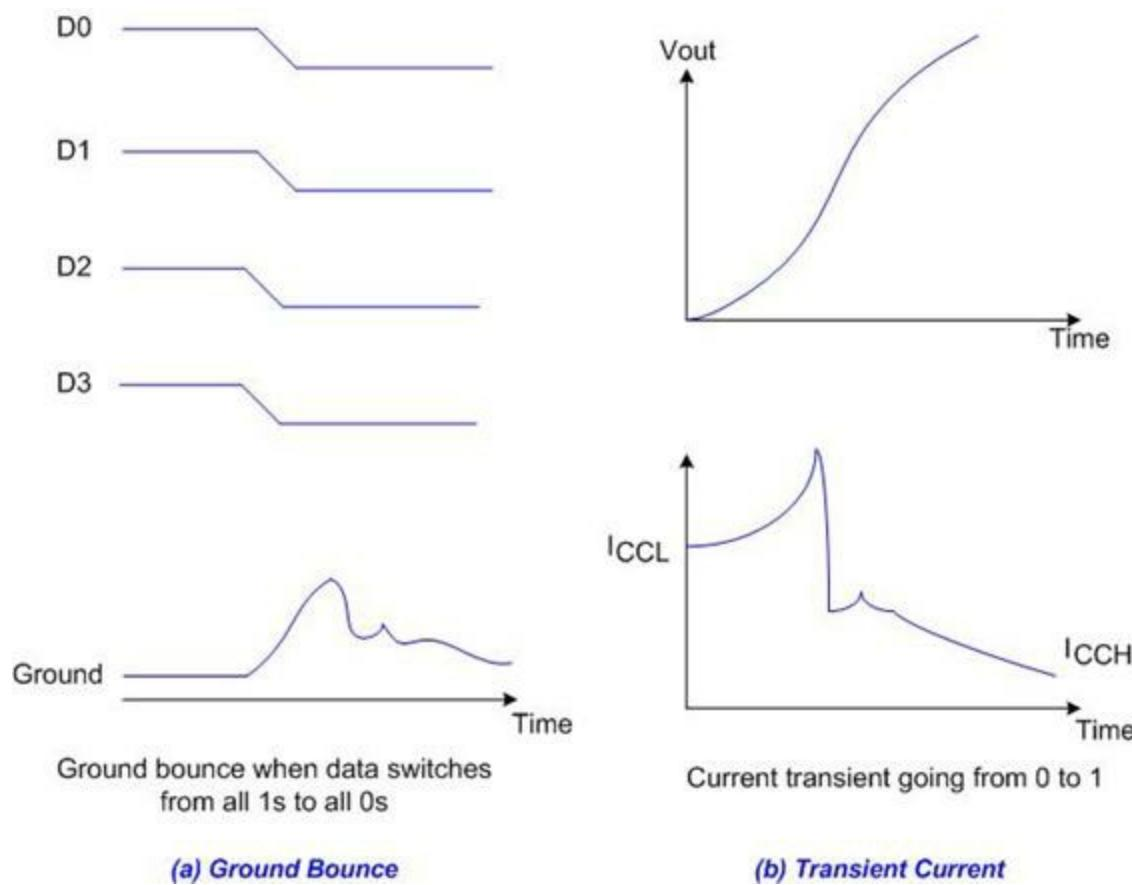

Figure A-10: (a) Ground Bounce (b) Transient Current
2. Use logics with a minimum number of outputs. For example, a 4-output is preferable to an 8-output. This explains why many designers of high-performance systems avoid using memory chips or the drivers and buffers of 16- or 32-bit-wide outputs since all the outputs switching at the same time will cause a massive flow of current in the ground pin, and hence cause ground bounce (see Figure A-10).
In the TTL family, the change of the output from low to high can cause what is called *transient current*. In totem-pole output, when the output is low, Q4 is on and saturated, whereas Q3 is off. By changing the output from the low to high state, Q3 becomes on and Q4 becomes off. It is faster to turn a transistor on than turn a transistor off. This means that there is a time that both transistors are on and drawing currents from the  $V_{CC}$ . The amount of current depends on the  $R_{ON}$  values of the two transistors, and that, in turn, depends on the internal parameters of the transistors. However, the net effect of this is a large amount of current in the form of a spike for the output current, as shown in Figure A-10.